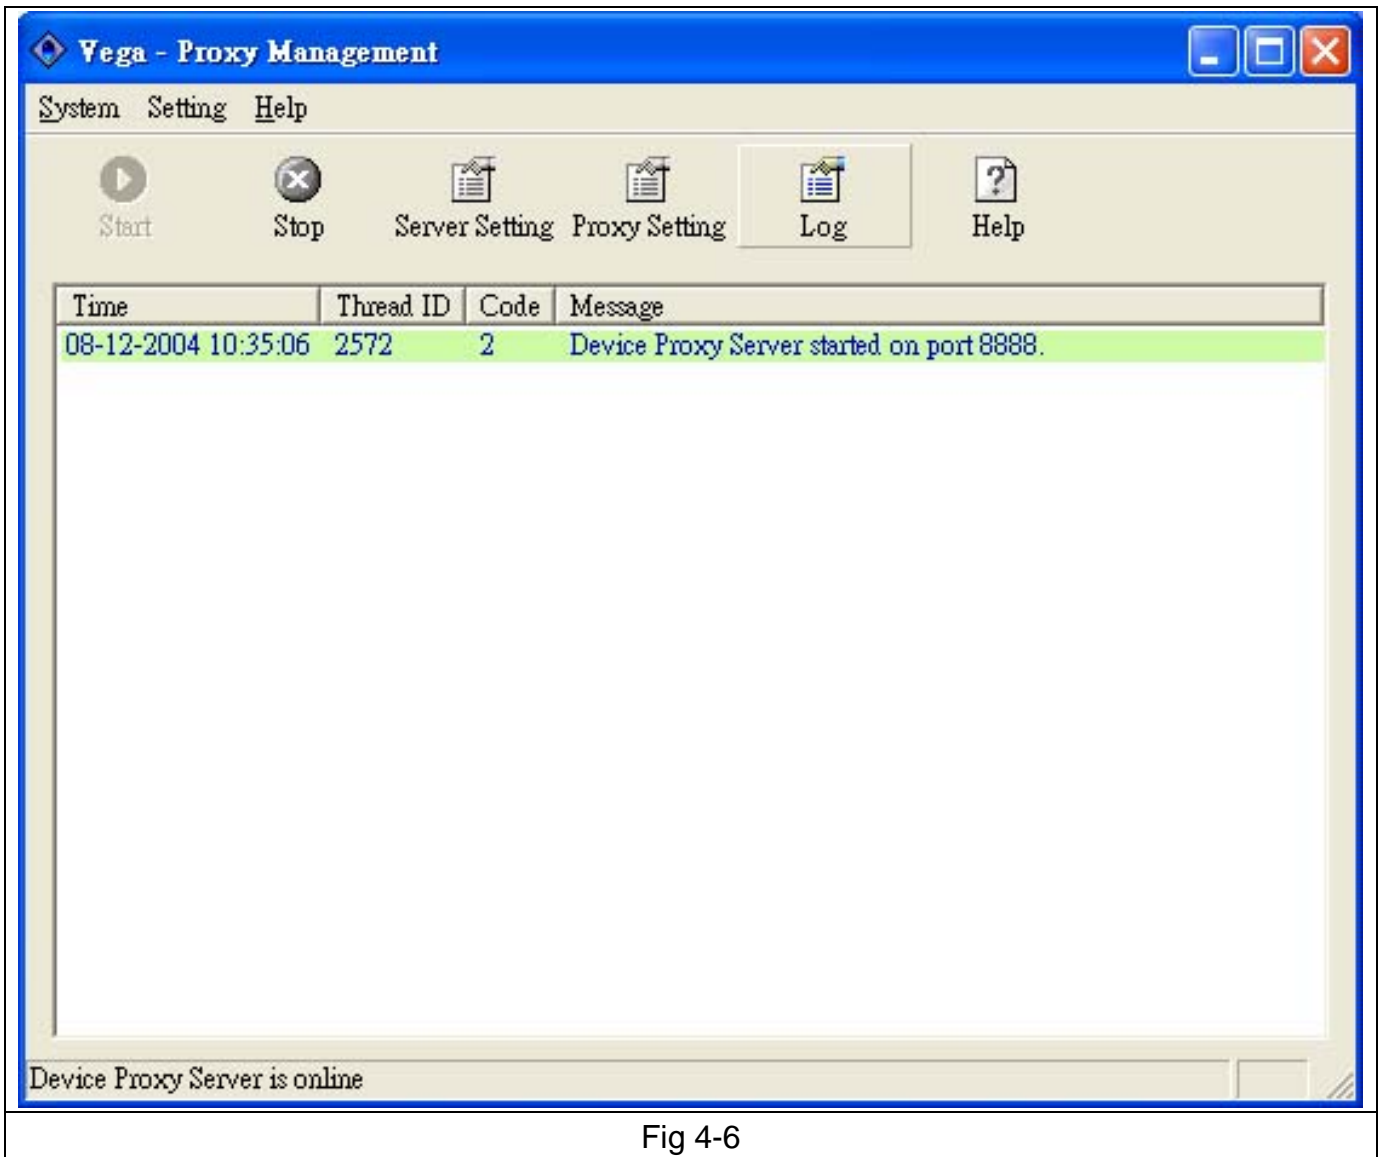

Fig 4-6
- E. Please change the **Server Port** from “80” to “8888”, and press **OK** for it to take effect. The next window shows that it runs using port 8888.(Fig 4-6)